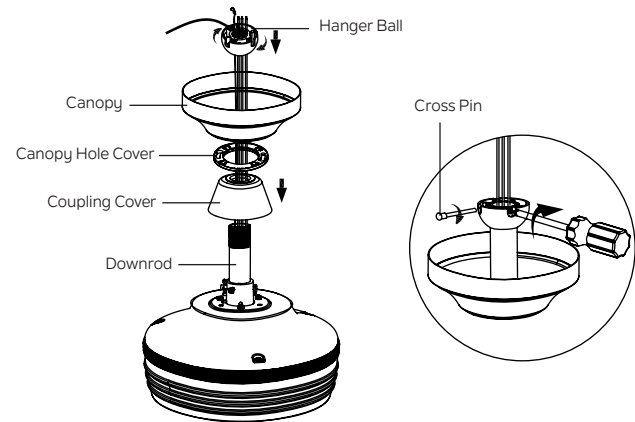

Fig. 9
**Step 5.** Slip the coupling cover, canopy hole cover and canopy onto the downrod. Carefully reinstall the hanger ball onto the downrod. Make sure the cross pin is in the correct position and the set screw is tight and the wires are not twisted. (Fig. 9)